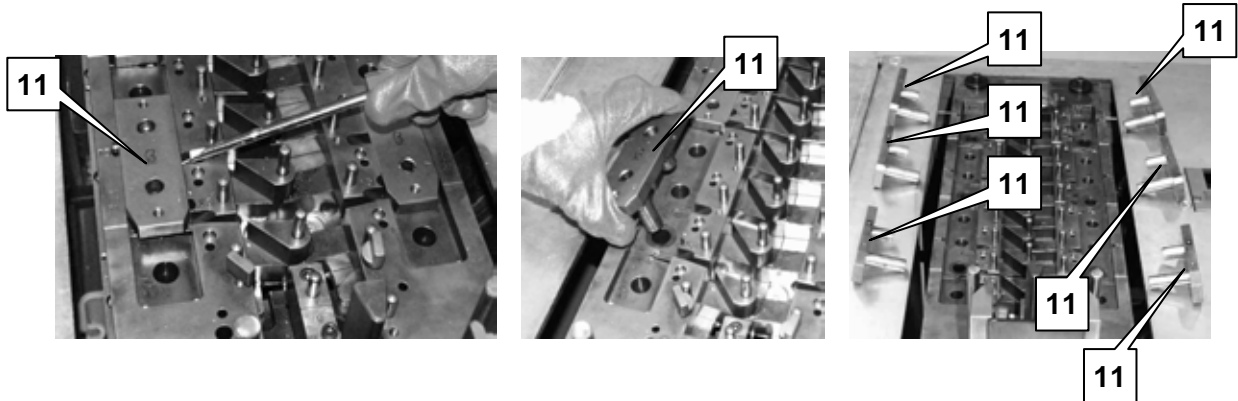

Fig. 4.58 – Pulling out fulcra 3, 4 and 5
8.1 pull out fulcra 3, 4 and 5 **11** and place them on the machine rear side (fig. 4.58);